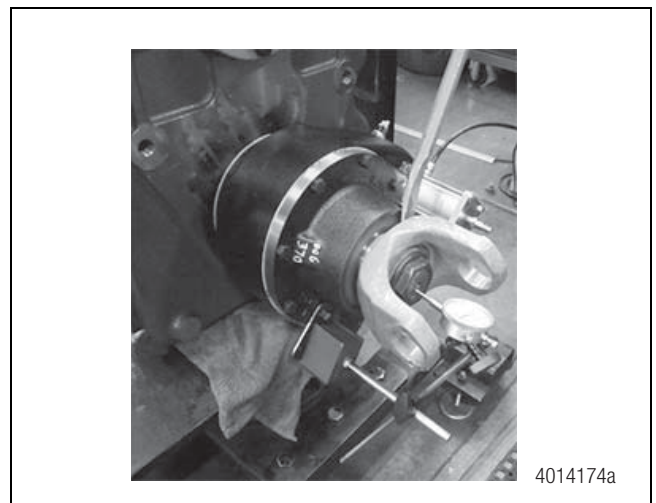

Figure 5.24
1. To facilitate reassembly, the end float of the shaft should be checked prior to disassembly. Install a dial indicator with a magnetic base as pictured in Figure 5.24. Lift upward on the carrier and note the amount of end float.